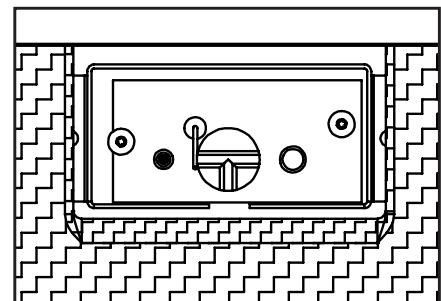

Figure 14: Ignitor assembly beside the burner.
8. Reinstall the burner, tray, glass media, and glass door. Also refer to SECONDARY INSTALLATION - FIREBOX LINER AND BURNER TRAY REMOVAL section. When re-installing the burner, ensure that the burner to pilot hood relationship is similar to what is shown in Figure 14.